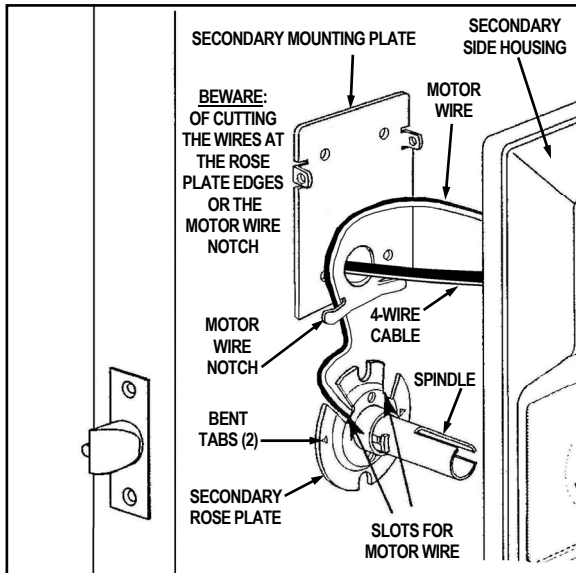
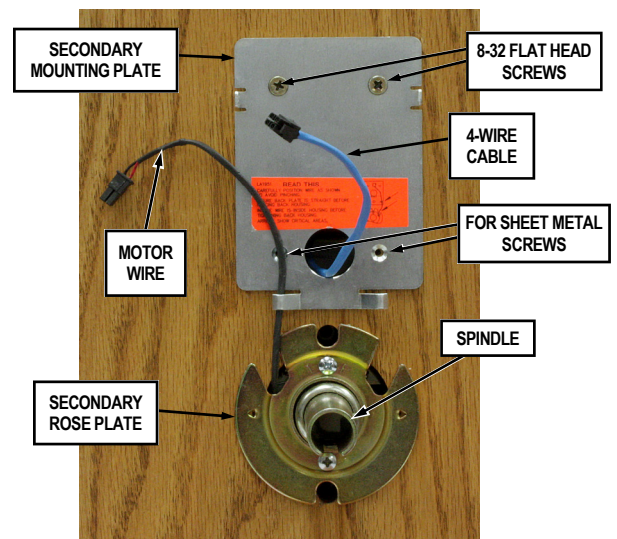

FIG. 11: INSTALL SECONDARY SIDE
FIG. 13: SECONDARY SIDE
2. Position the Secondary Mounting Plate and pull the 4-Wire Cable through the Mounting Plate opening (be sure not to pinch or cut wires). Fasten the Secondary Mounting Plate with two 8-32 flat head screws and two sheet metal screws (do not over-tighten). **Note:** Be sure the Secondary Mounting Plate is perfectly vertical before installing the sheet metal screws (see Fig. 13 for screw locations). **Note:** As you tighten the screws, the Secondary Mounting Plate pulls in and secures the Primary side housing to the door. **IMPORTANT:** See Fig. 11 and 13: The Motor Wire must come through either slot in the Secondary Rose Plate and be secured by the Motor Wire Notch without pinching or cutting the wires.